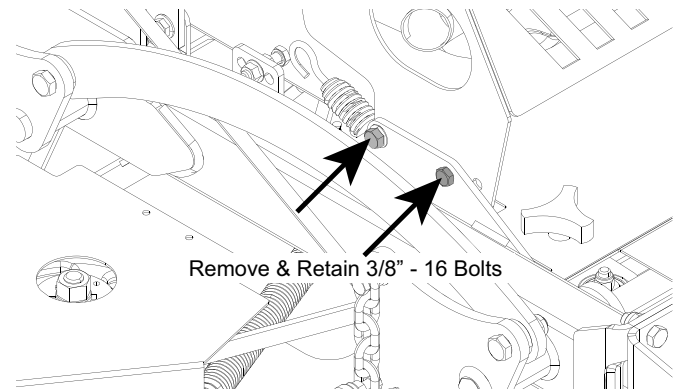

Figure 3-42. SVRXL RF Control Mount Location
1. Remove and retain 3/8"-16 bolts from mainframe assembly; located on the side of the muffler heat shield. See Figure 3-42.
2. Secure the RF control module and guard to the mounting bracket using two 1/4 - 20 x 1" bolts, two 1/4" flat washers, and two 1/4" - 20 elastic stop nuts. See Figure 3-42.